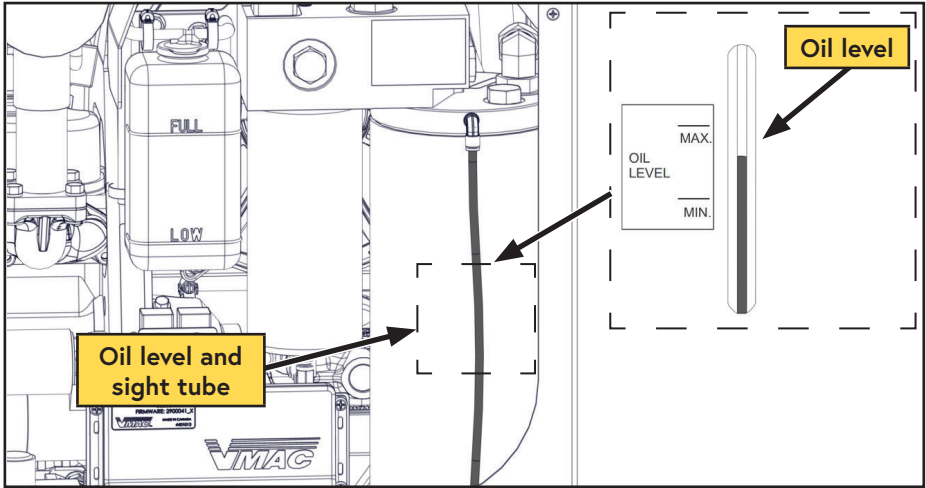

Figure 30 — Add compressor oil
- ☐ Using a funnel, add oil to the AOST until it reaches the "MAX" line on the sight glass on the front of the AOST. The air compressor system holds approximately 1 USG (4 L) of oil when dry (Figure 30).